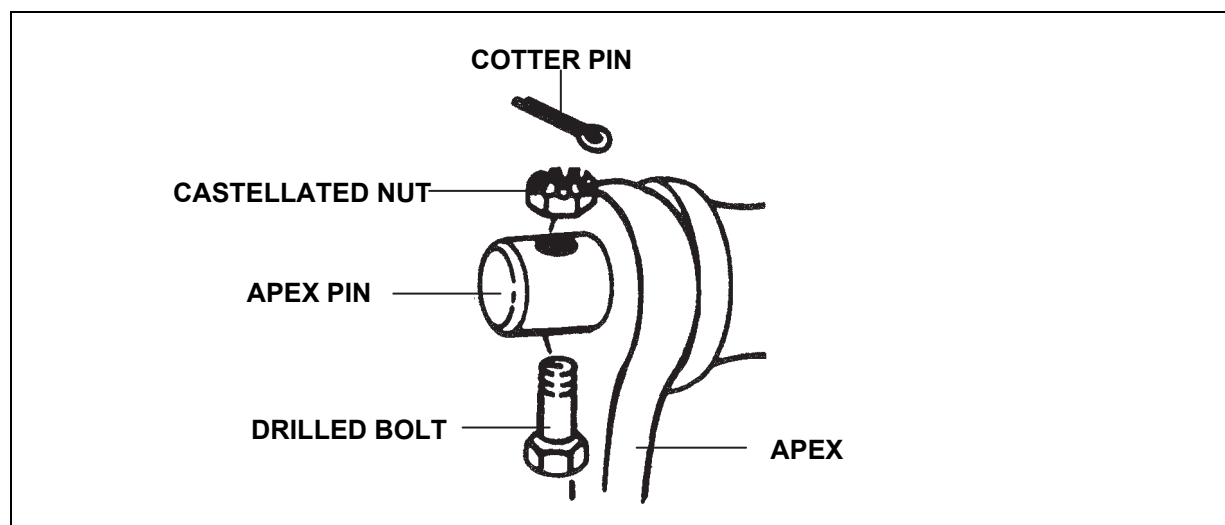

Figure 6-17. Bolt Assembly
- Remove the bolt from the pin (figure 6-17).